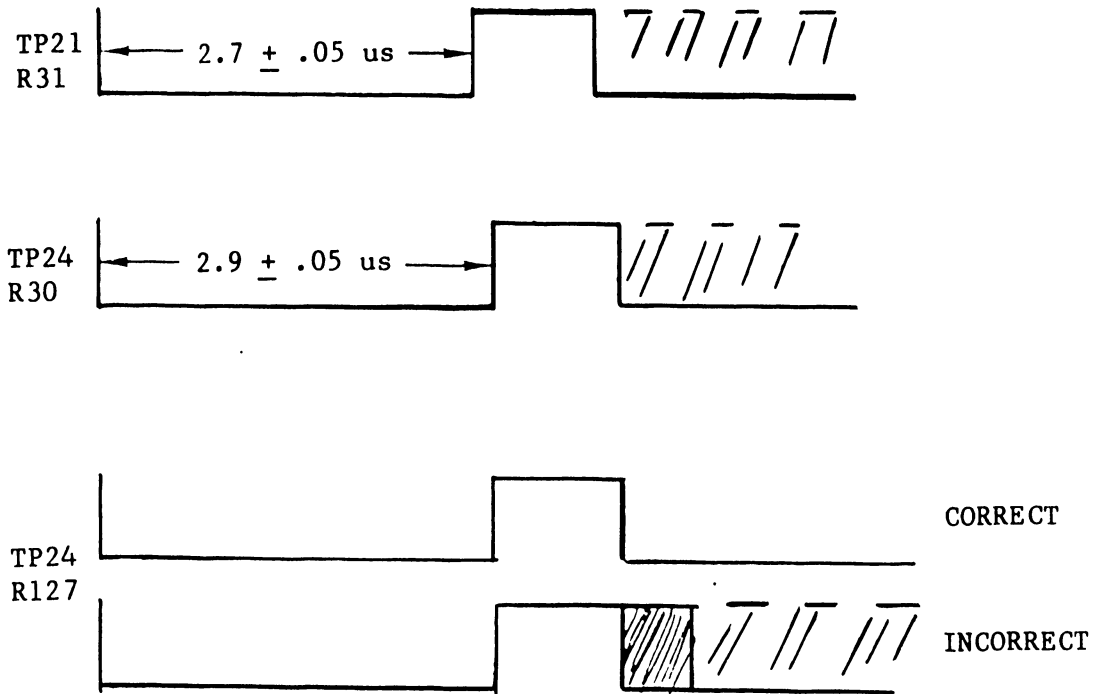

Figure 10 Test Points
- g. While observing the trailing edge of the positive pulse that is also displayed, adjust R127 until the trailing edge is one solid transition (Refer to Figure 10).